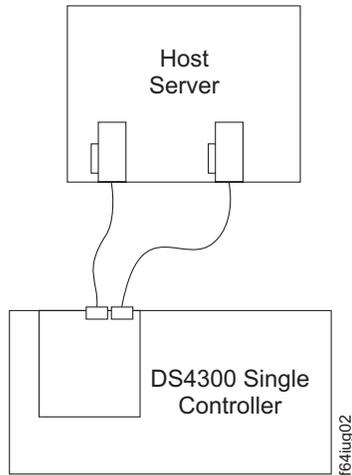

Figure 62. Example of a single server configuration with two adapters (Model 6LU/6LX)
- Single server configuration with two adapters (Figure 62 on page 79)